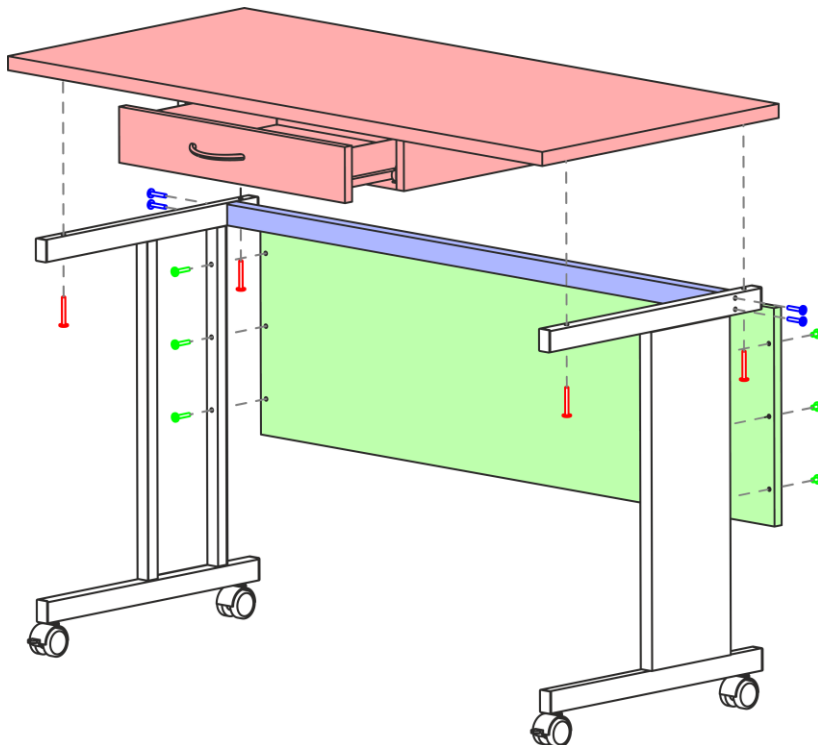

Figure 2. T-4L assembly
- Assemble the frame by joining 2 legs and the horizontal bar with 4 M6x35 screws (blue on figure 2).
- Secure the back panel on the frame with 6 pairs of M6x40 and M6/9x12x15 screws (green on figure 2).
- Position and secure the tabletop with 4 M6x50 screws (red on figure 2).